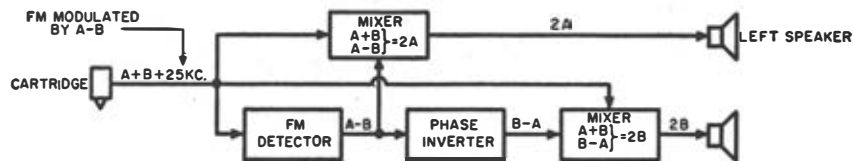

Fig. 1. Simplified block diagram of electronics used in playback of Minter disc.
17. Minter Stereo Disc: The sum of the two channels, namely $A + B$, is cut laterally. The difference between the two channels, $A - B$, is obtained electrically and employed to frequency modulate a 25 kc. carrier, which is also cut laterally. In playback, a monaural type pickup (responding only to lateral stylus motion) with relatively flat response to 30 kc. is used. While the cartridge immediately delivers the $A + B$ information, special electronic equipment is used to obtain the $A - B$ information and to mix it with the $A + B$ signal so as to derive separate A and B signals. The technique for doing this is illustrated in Fig. 1. The $A - B$ signal is extracted by an FM detector and combined with the $A + B$ signal to produce A information; then the $A - B$ signal is phase inverted to form $B - A$, which is combined with the $A + B$ signal to produce B information.